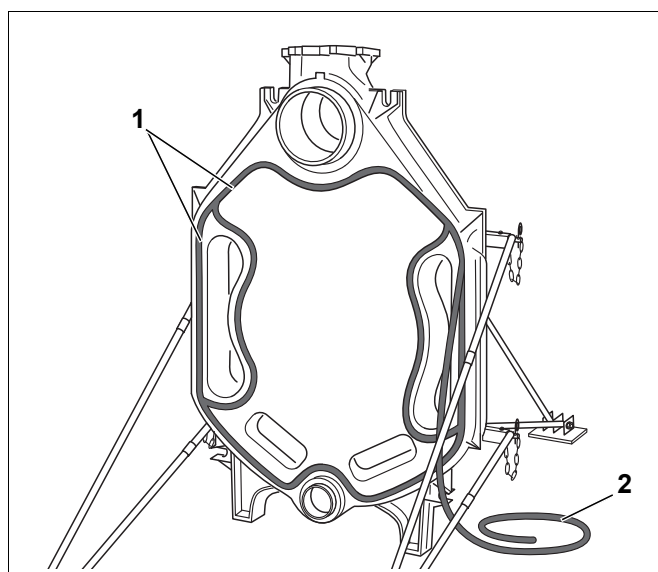

Fig. 16 Insert the packing cord (KM cord)
- Insert and lightly press home the packing cord (KM cord: Fig. 16, **[2]**) into packing grooves (Fig. 16, **[1]**) on the face of the rear section, beginning in the upper hub area. At the butt joints, overlap the packing cord by 2 cm and press firmly together.